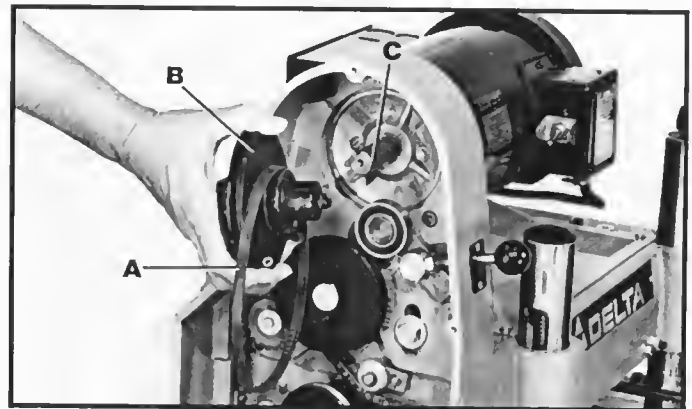

Fig. 10
1. Place gear box belt (A) Fig. 10, on the small groove of the motor pulley (B) and assemble motor pulley (B) to the motor shaft (C).